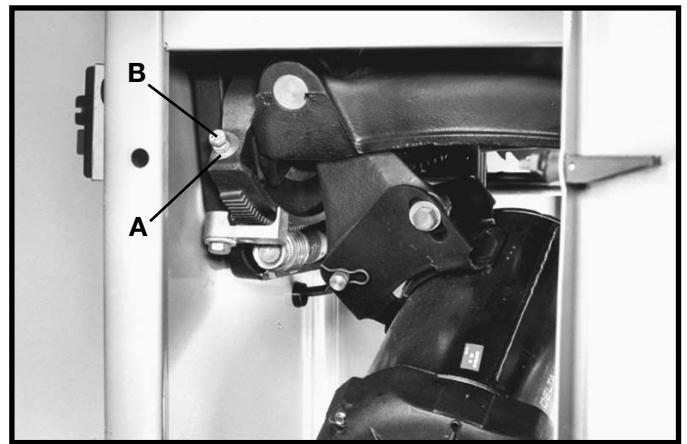

Fig. 117
2. Using a square, check to see if the blade is 90 degrees to the table. If an adjustment is necessary, turn the blade tilting handwheel counterclockwise. Loosen locknut (A) Fig. 117, and tighten or loosen adjusting screw (B) until head of screw (B) contacts casting on front trunnion when the blade is at 90 degrees to the table. Then tighten locknut (A).